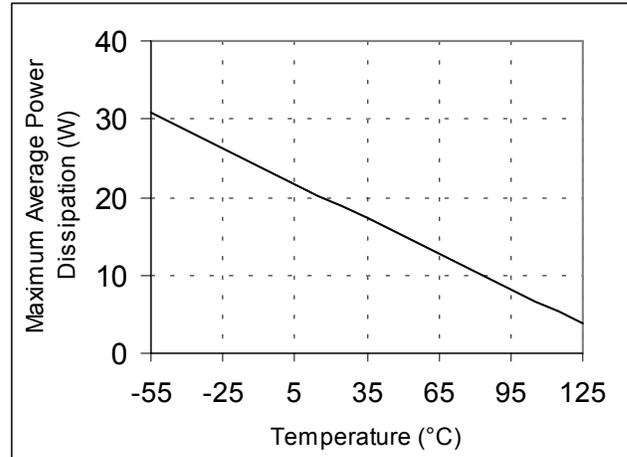

Figure 7. Maximum Average Output Power Dissipation vs. Case Temperature.
3. Case Temperature $T_C = 25^\circ\text{C}$ (see Figure 7).